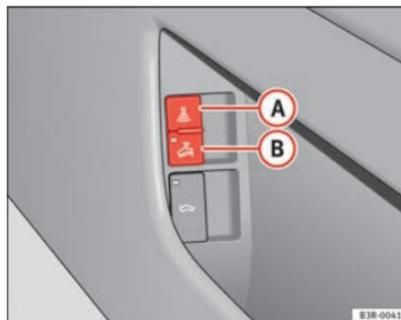

Fig. 79 Interior monitoring switch
- Open the door and pull out the switch (with the symbol) to one side of the storage compartment, in the driver door ⇒ Fig. 79.
⇒ Fig. 79.